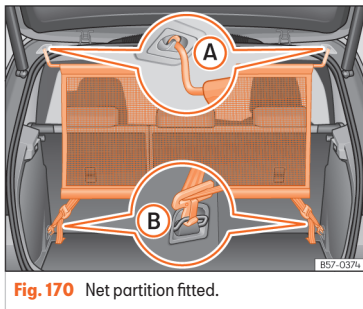

Fig. 170 Net partition fitted.
- Hook the net partition to the left-hand side roof housing »» Fig. 170 A. Be sure to pull the cross rod down past the upper position.
- Hook in the net partition on the rear right-hand side roof housing by pressing on the bar »» Fig. 170 A.
- Secure two hooks of the partition net to the fastening rings of the boot »» Fig. 170 B and tighten the straps firmly.